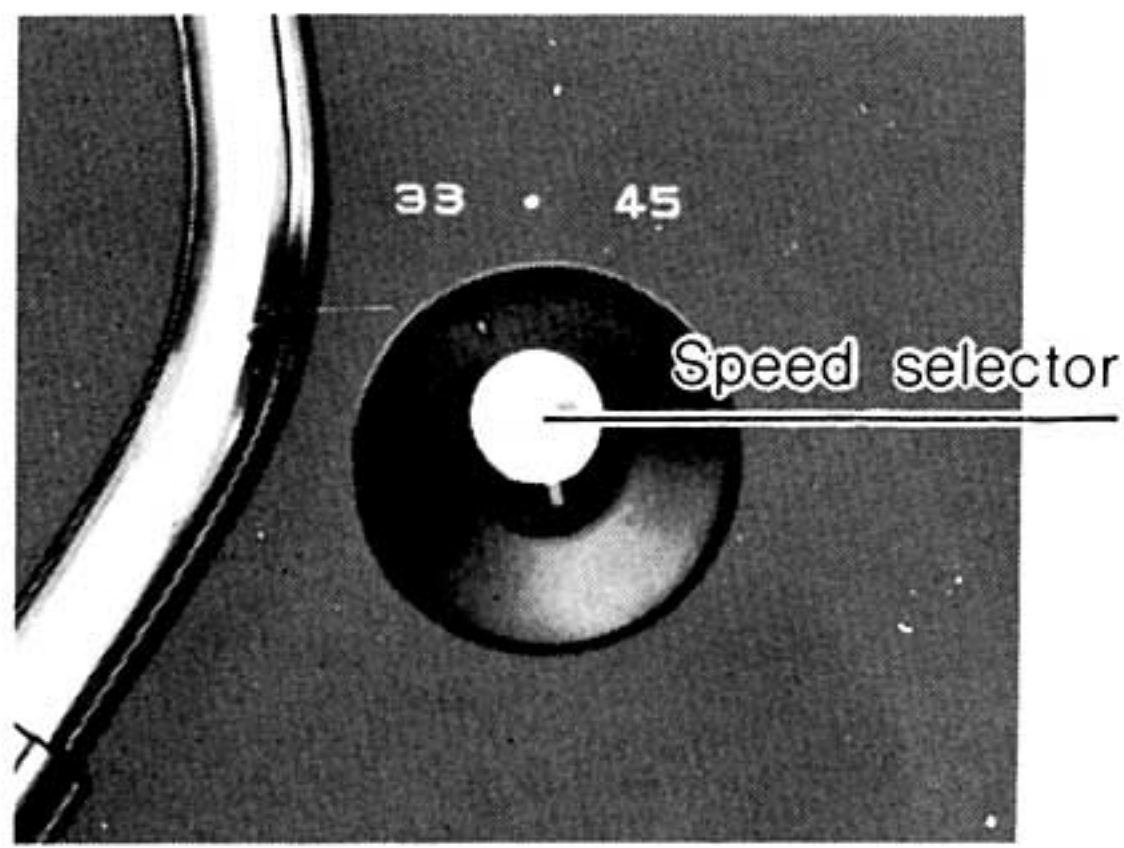

Figure 13
- 1 SET THE SPEED SELECTOR TO THE DESIRED RECORD SPEED. (See Fig.13)